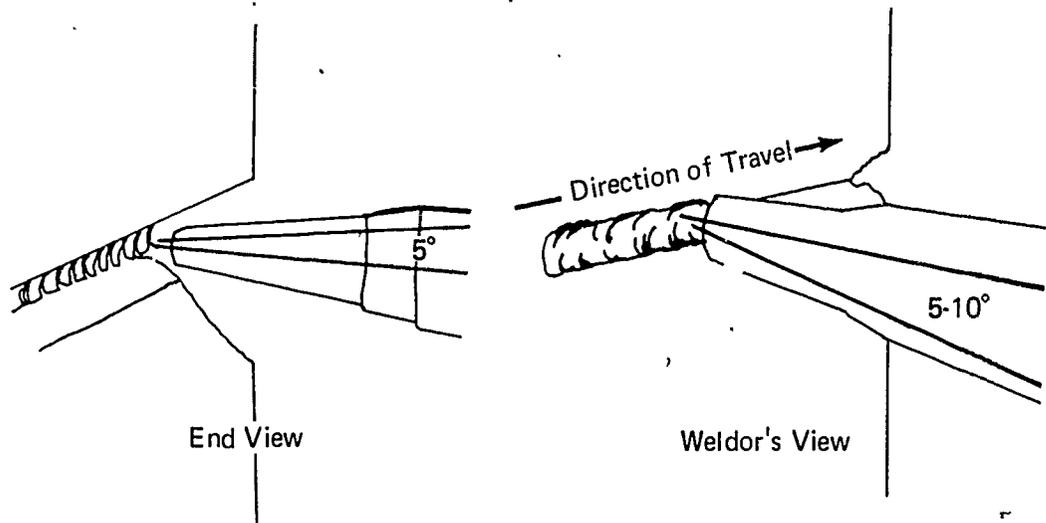

FIGURE 6
- H. Position electrode 5° up from horizontal and 5° - 10° in direction of travel (Figure 6)